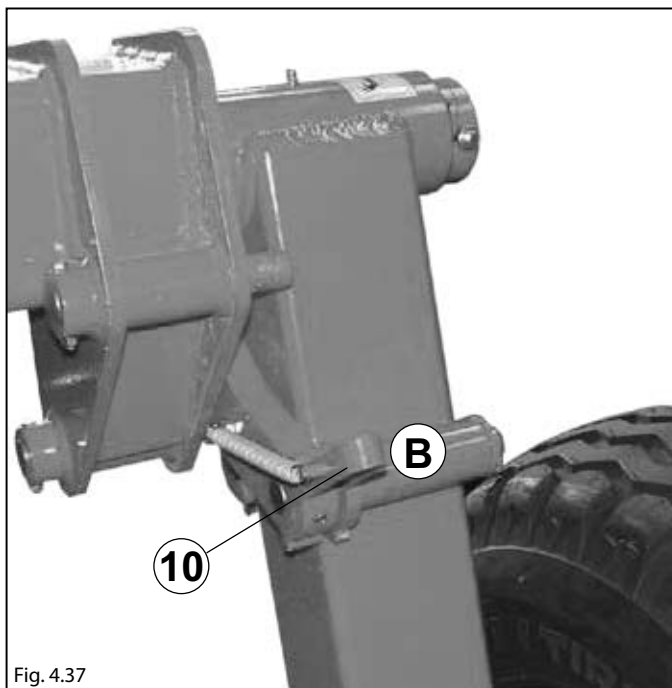

Fig. 4.37
- Bring the lever **10** to position **B** (Fig.4.37).